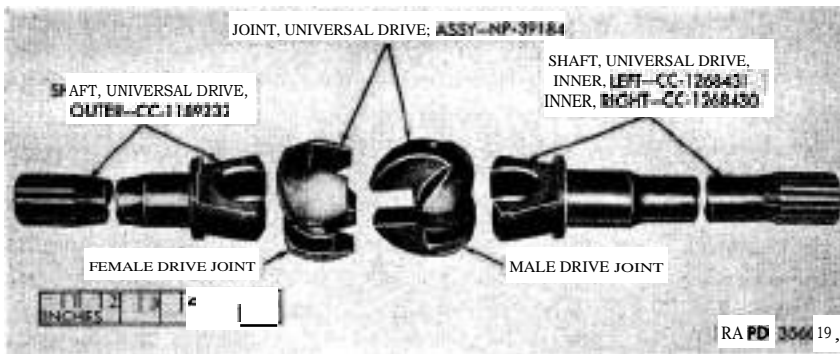
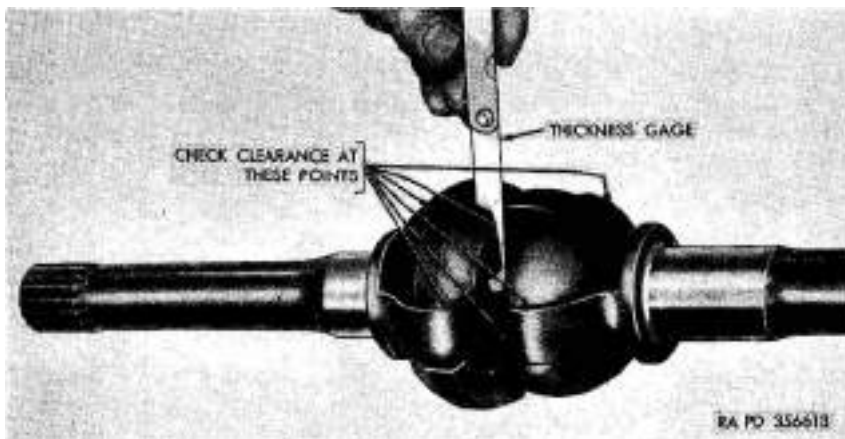

Figure 64. Universal drive assembly.
Figure 65. Checking universal drive joint assembly clearance with thickness gage.
- (1) Inspect all shaft splines, bearing surfaces, and oil seal contact surfaces. If there is evidence of twisting, scoring, wear, cracks, or chipping, the shafts must be replaced. Measure diameter of inner and outer universal drive shafts at bearing and oil seal contact surfaces with a micrometer. If the wear limits exceed that specified in paragraph 342, replace drive shafts.
- (2) Inspect universal drive joint assemblies for wear, scoring, chipping, or cracks. If the parts appear satisfactory for further service, assemble universal drive joint in the sequence shown in figure 64 and check the clearance between parts (fig. 65). The clearance at any of the checking points should not exceed wear limits indicated in paragraph 342. If clearance exceeds specified wear limit, replace the joints or shafts as required.
- (1) Apply a small quantity of specified lubricant (refer to TM 9-840) on the various universal drive joint parts. Place male joints on universal drive inner shafts (*fig. 64*) and install inner shafts and joints in the front axle housing assembly.
- (2) Place female joints on universal drive outer shafts and insert outer shafts in steering knuckles. Engage female joints with male joints ; then position steering knuckles on steering knuckle flange assemblies (flat portion of steering knuckle to correspond with top of steering knuckle flange). Use a plastic hammer to drive steering knuckles in flanges while maintaining proper alinement with screw holes.